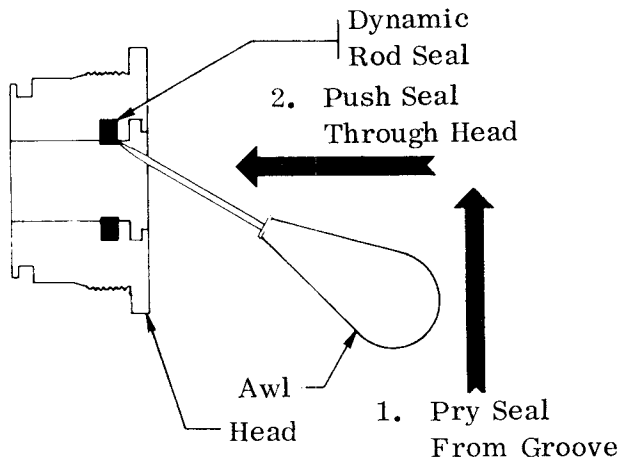

Figure G-4. Dynamic Rod Seal Removal
12. Position the head with the top of the head up and puncture the dynamic rod seal (No. 3) with the ice pick. Pry it out of the groove and push it on through the head (Figure G-4).